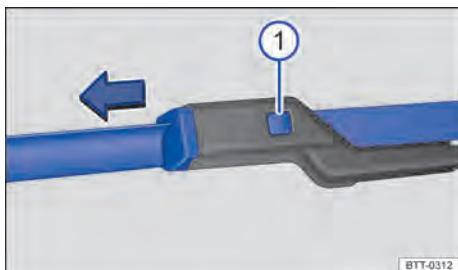

Fig. 167 Replacing windscreen wiper blades.
- Press and hold the release button → Fig. 167 ① and pull off the windscreen wiper blade in the direction of the arrow